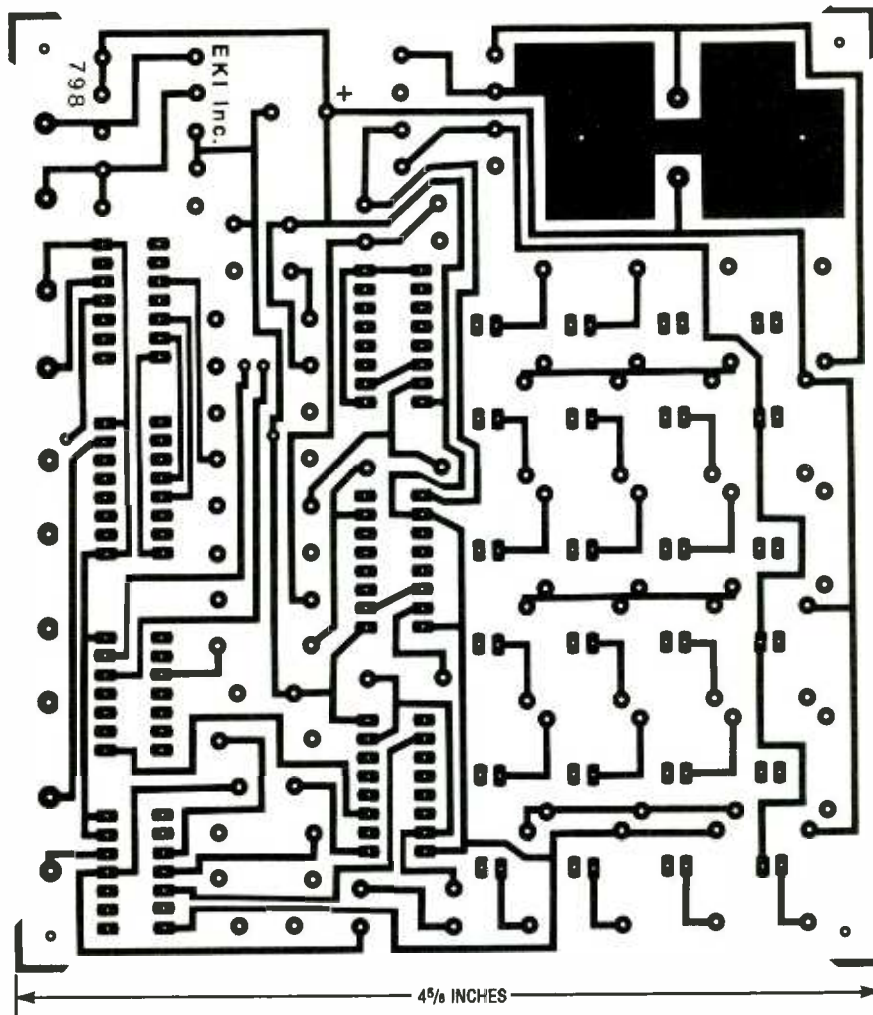

Fig. 3. Here's the foil side of the Binary Clock's double-sided printed-circuit board.
Construction. The wire clip is everything. Take your time and get it right. Start, as shown in Fig. 3, by straightening a large paper clip. Figure 3A shows the
Fig. 3. Follow this clip-bending diagram to form the battery holder for the Electronic Fish Lure. Starting with a straightened large paper clip, make a bend at point A (A), follow by the bend at point B (B), and then the bend at point D (C). Then form a loop at point C and another at point E (D).